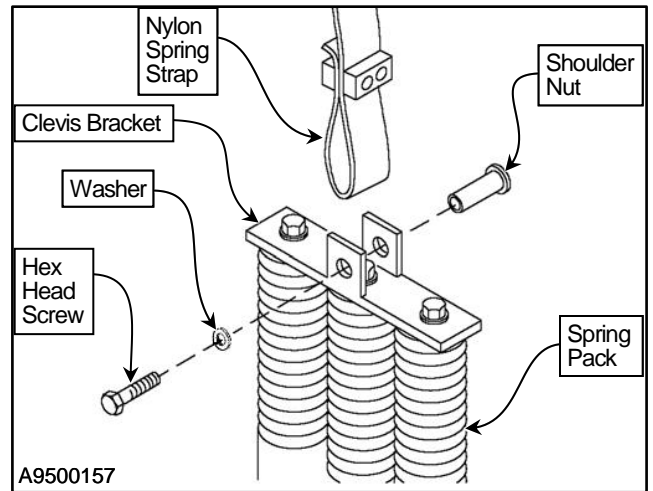

Figure 77
6. To release the strap from the spring pack, remove the hex head screw & the shoulder nut passing through the clevis bracket at the top of the spring pack. Save all hardware. (See Figure 77)
11. Attach the loop end of the new spring strap to the spring pack using the saved hardware. Make sure the strap is hanging straight and not twisted. (See Figure 77)
5. To release the spring pack from the strap, remove the hex screw and the shoulder nut passing through the clevis bracket located at the top of the spring pack. (See Figure 77)